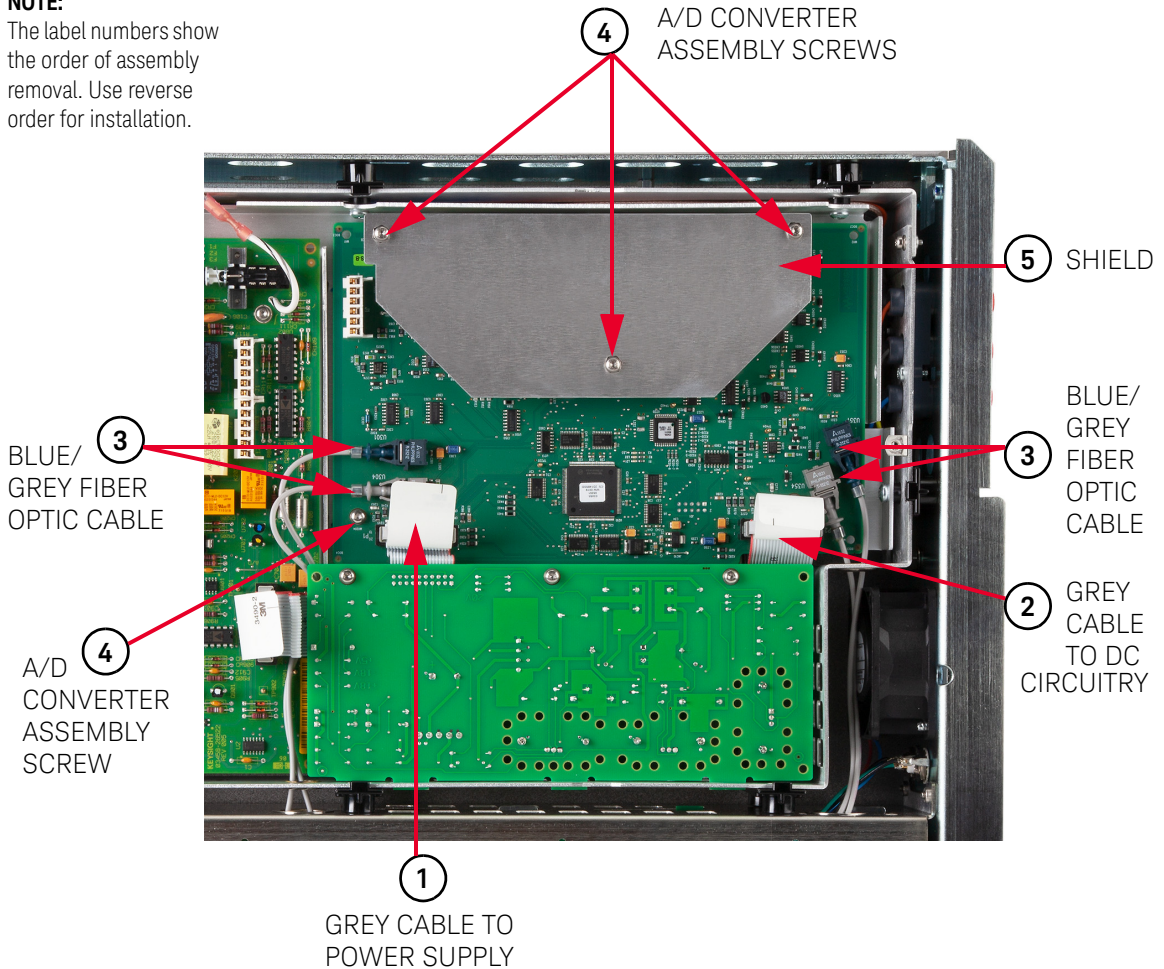
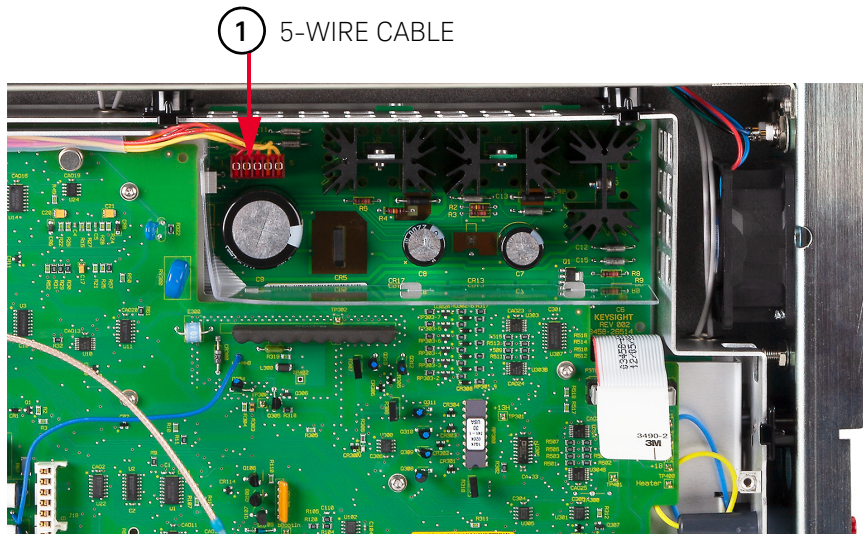

Figure 3-11 A/D converter and inguard logic assembly
Figure 3-12 Remove/Install transformer cable on inguard power supply
Refer to Figure 3-11 for the following procedures.
The label numbers in Figure 3-11 and Figure 3-12 show the order assembly removal. Use reverse order for installation.
- 3 Refer to Figure 3-12. Unplug the 5-wire cable from the Inguard Power Supply assembly. This cable is connected to the power transformer.
- 7 Refer to Figure 3-12. Locate the cable connected to the power transformer. Line up the cable plug with the socket on the Inguard Power Supply assembly. Then plug the cable in.